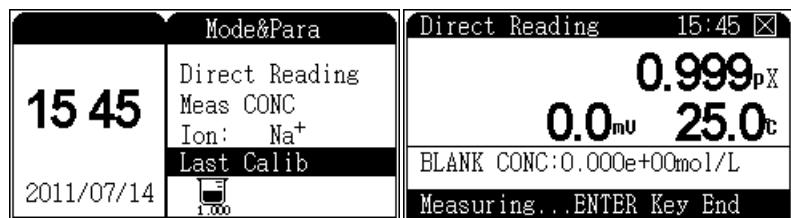

Figure 28 Direct Reading mode
- 3 From the initial screen, press [**Measure**]. See Figure 28. During measurement, you can view calibrated data, calibrate the electrode, adjust mV zero, calibrate blank concentration, and reset blank concentration.